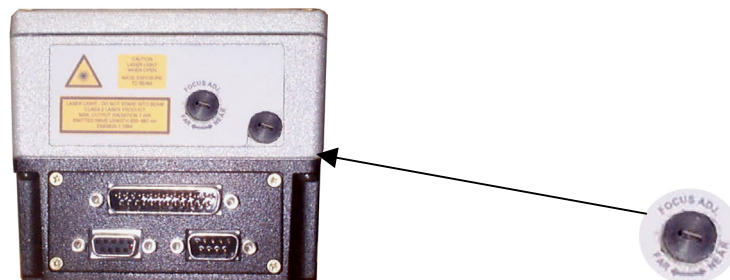

Figure 65 - Focus Adjustment Screw
The adjustment can be simply made through an external screw placed on the back of the optic HEAD and protected by a cap (Figure 65). The screw may be rotated either clockwise or counterclockwise in order to move the scanner internal lenses. In particular, a clockwise rotation causes a farther focus from the scanner, while a counterclockwise rotation causes a nearer focus to the scanner.
- 1) Remove the regulation screw protecting cap (see Figure 65) positioned on the back of the optic Head;